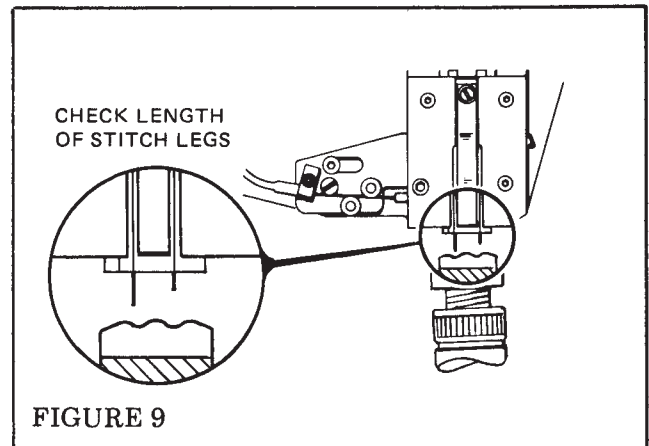

FIGURE 9
(1) Turn off the motor. (2) Step on the foot pedal and turn the drive wheel slowly until the formers and driver (Figure 9) are at the lowest point of their stroke and the driver bar pushes the stitch partially out of the former legs. (3) Check lower part of the stitch legs to see if they are uneven (Figure 9). (4) If the leg length is uneven turn drive wheel until formers and driver are at the highest point of their stroke.